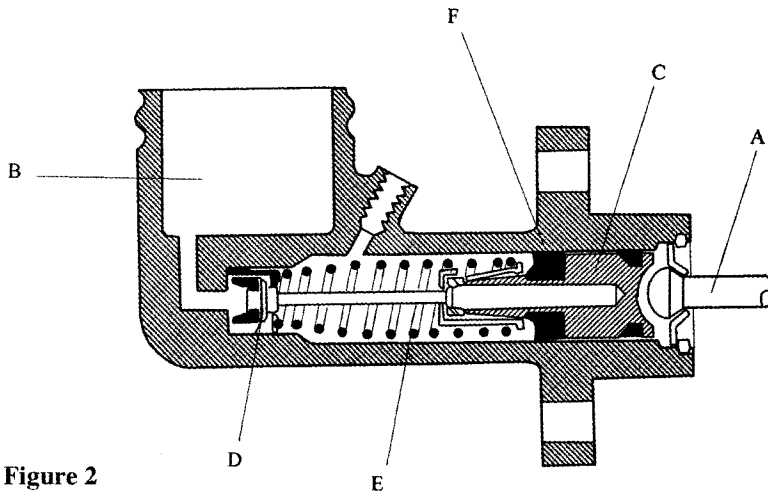

Figure 2
- (b) Figure 2 shows a cross-sectional view of a brake master cylinder.